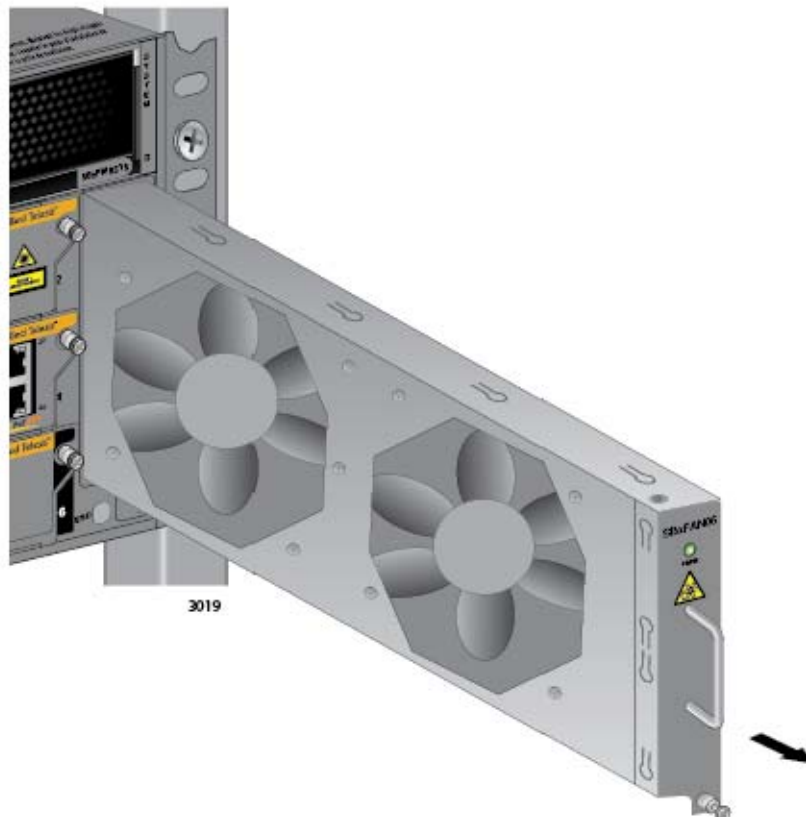

Figure 182. Removing the AT-SBxFAN06 Fan Module from the Chassis
6. After the fans have stopped, slide the module from the chassis. Refer to Figure 182 on page 284.